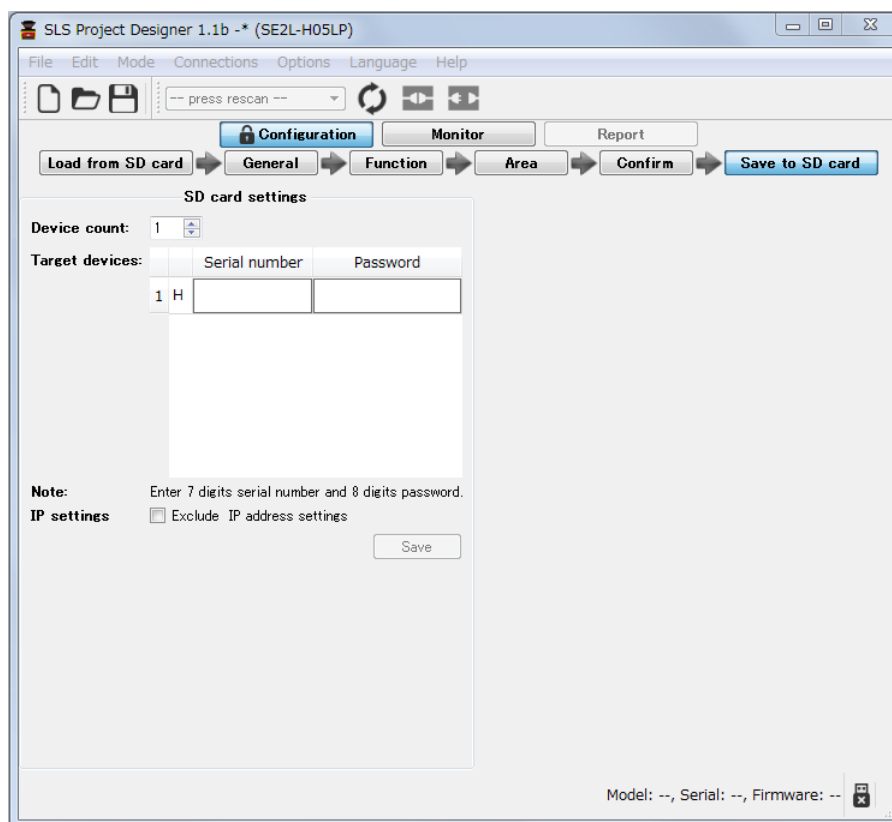

Figure 7-58 SD Card setting screen
- e) In the SD card setting tab (Figure 7-58), enter the 7 digit serial number and the passwords of all the SE2Ls intended to be configured with the settings on the SD card. To prevent the change of IP address of the SE2L, check the “Exclude IP address setting” on the tab. This will retain the original IP address of all the SE2L.